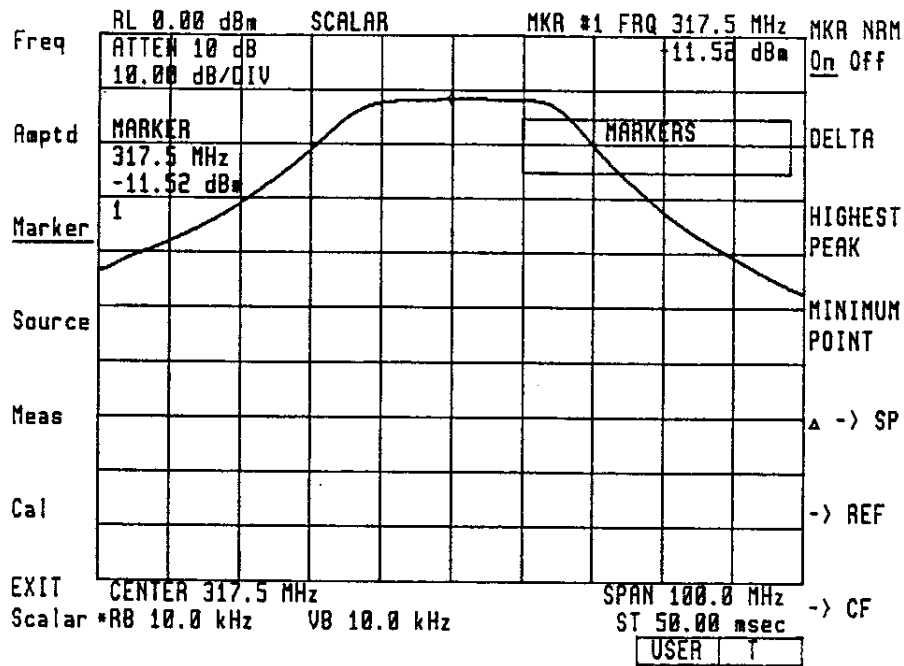

Figure 3-3. Using Marker to Determine Approximate Passband Frequency
3. Press **Marker**, **MKR NRM On** to turn on the normal marker. Use the knob to adjust the marker to the center of the passband. The approximate filter passband center frequency is read directly from the screen (see Figure 3-3).